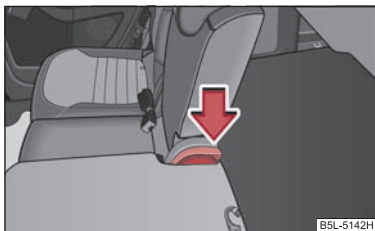

Fig. 65 Folding the seat backrest back into position
- Push the lever ⇒ fig. 65 and fold the backrest back into position. Check for yourself that the seat backrest is engaged.